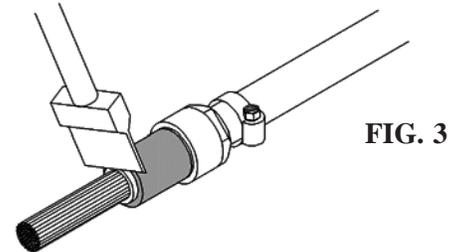

FIG. 3
4) Using a hot knife, cut the fiber as straight as possible using the fiber jacket as a guide. Do not saw or rock the knife blade back and forth. Hold steady pressure straight down on the fiber, tilting the blade of the hot knife at a slight angle, easing the pressure slightly while completing the cut. **FIG. 3**